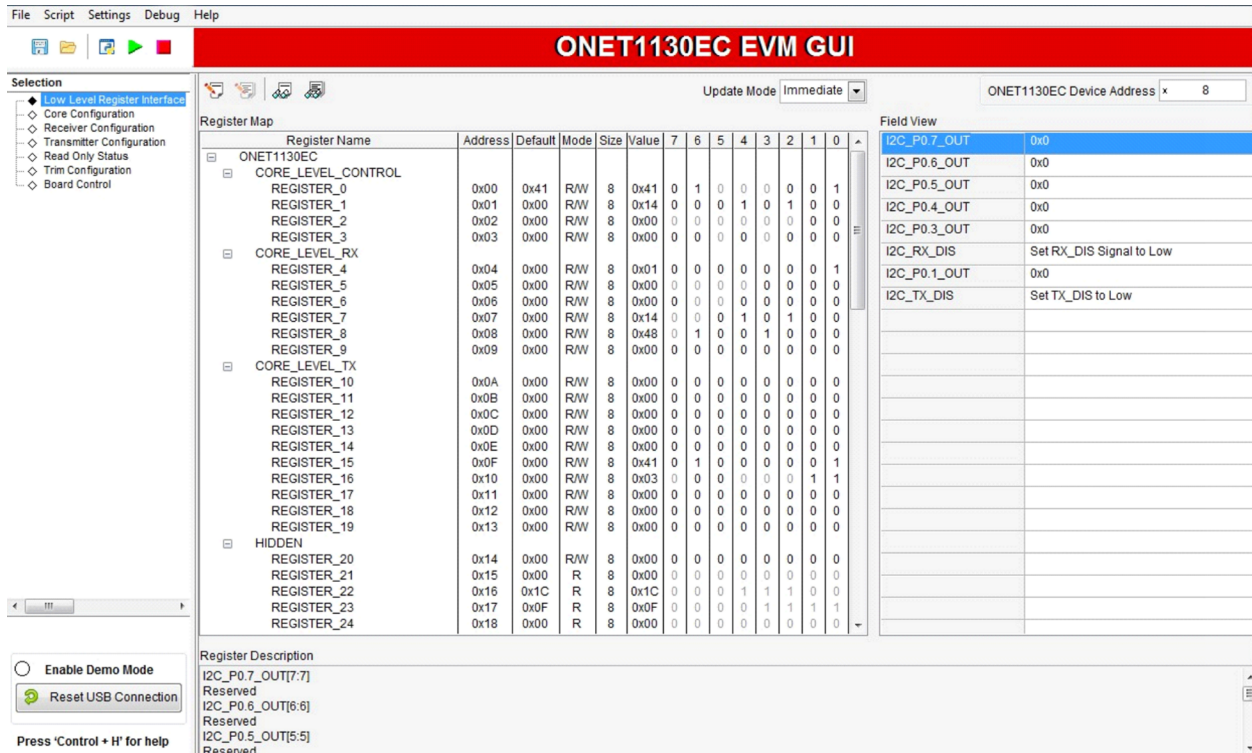

Figure 6. Low Level Register Interface Page
10. Run the GUI by clicking the ONET1130EC GUI shortcut icon on the desktop. The *Low Level Register Interface* page appears (Figure 6).